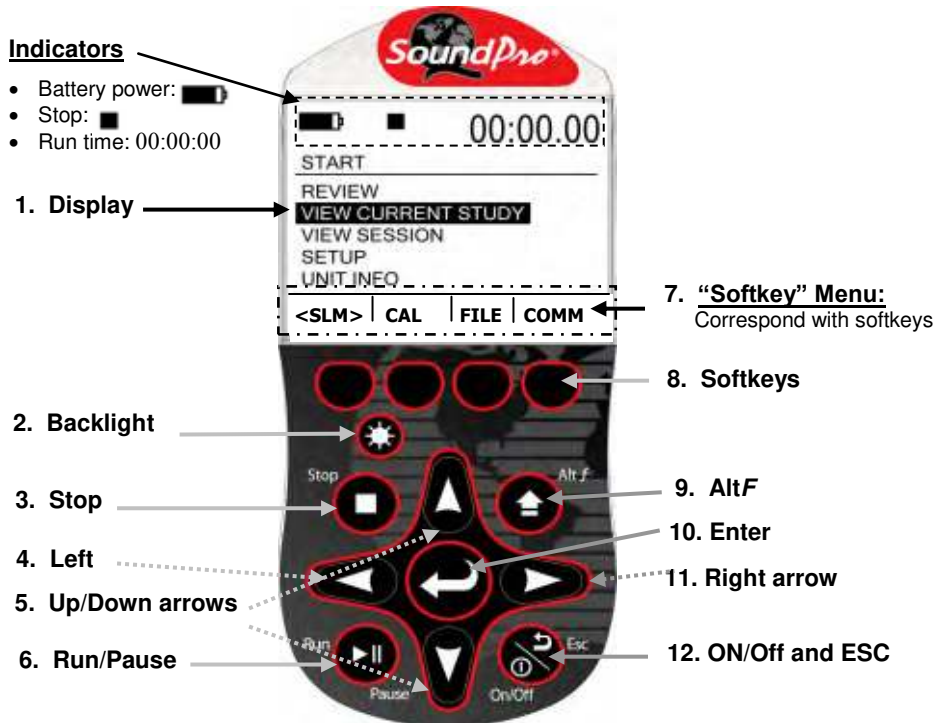

Figure 2-10: SoundPro SE/DL start screen and keypad
8. Softkeys	The Softkey buttons correspond with the softkey menu. (Please see Figure 2-10 above).
- If turned on, ensure you are at the start screen by pressing **On/Off/Esc**  repeatedly until you return to start screen (see Figure 2-10).
- If turned on, ensure you are at the start screen by pressing **On/Off/esc** repeatedly until you return to start screen (see Figure 2-10).